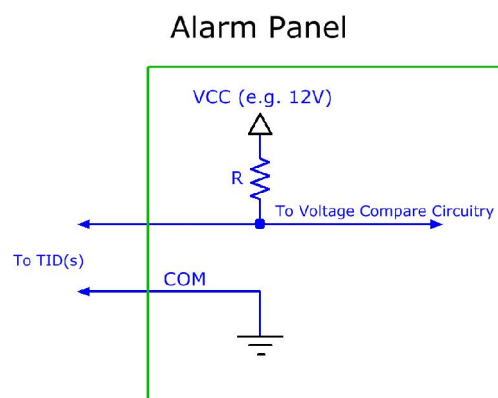

Figure 8 - Alarm Panel
The Receiver can also be integrated with an alarm panel or another external device. The Receiver terminal block has relay terminals for two different devices (device A, and device B), as shown in Figure 8.
- 2. Route the wires from the Receiver terminal block through the hole next to the SMA antenna connector (see previous Figure 8).
- 8. Use the zip tie to secure the wires in order to reduce the strain on the terminal block wires (see previous Figure 8).
The Receiver has a female SMA connector at the top of the case to connect the 2.4 GHz antenna, which communicates with the Transmitters. Attach the Receiver Antenna to the Receiver by placing the antenna carefully on the SMA connector (see previous Figure 8), lining up the center pin, and turn the antenna clockwise until the antenna is securely attached to the Receiver.